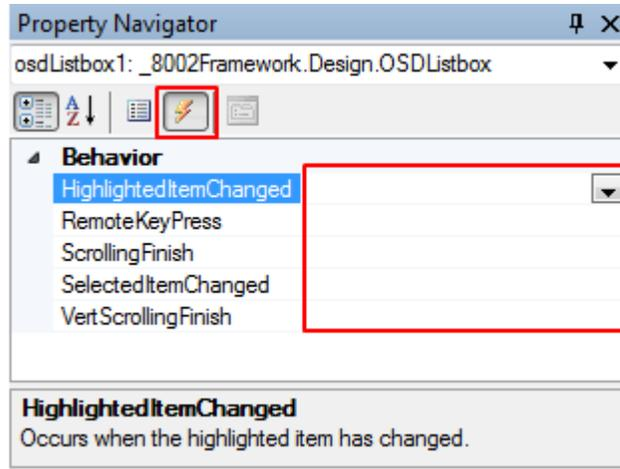

Figure 31: Events Shown for OSDListbox
- Press the events button on the Property Navigator panel to display a list of the available events for the selected component (see Figure 31).
**Note:** The lightning button (bounded in red in Figure 31) displays events for the selected component.